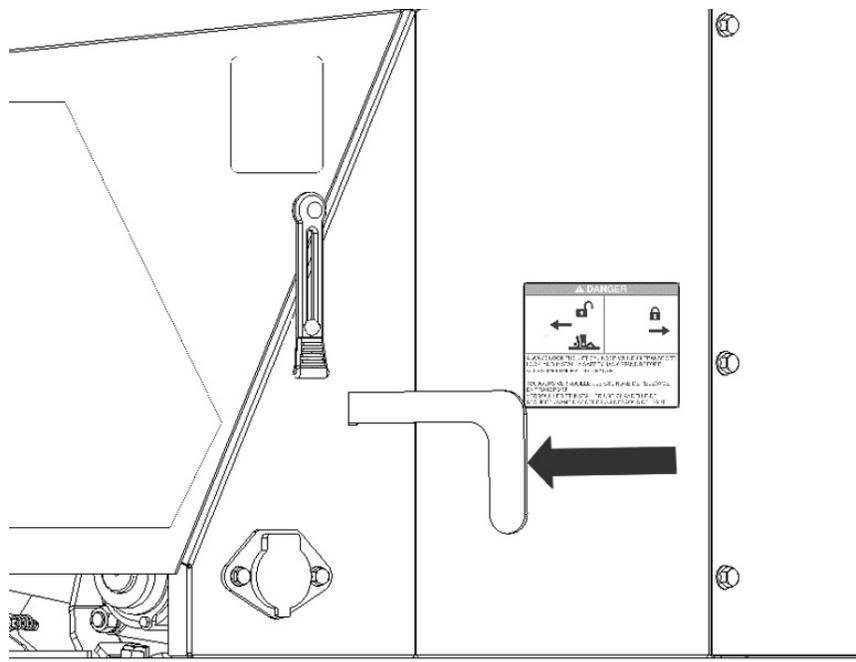

Figure 80 Unlocking the header lift cylinder
2. Push the handle **in** towards the harvester to unlock the header lift cylinder (Figure 80).